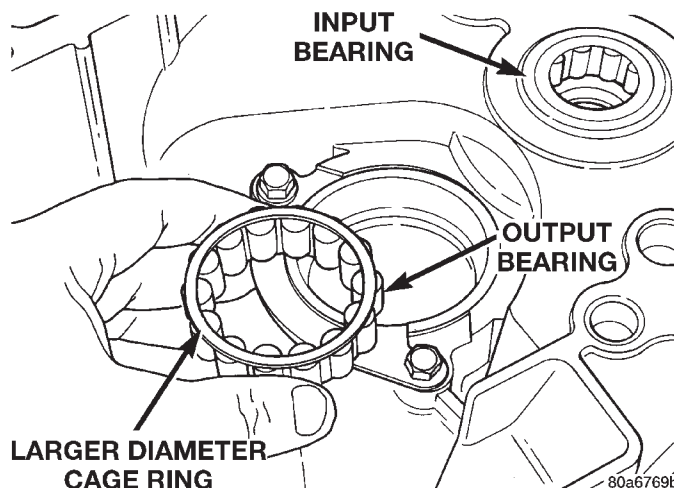

Fig. 132 Output Roller Bearing
(1) Remove caged roller bearing from output bearing race (Fig. 132).